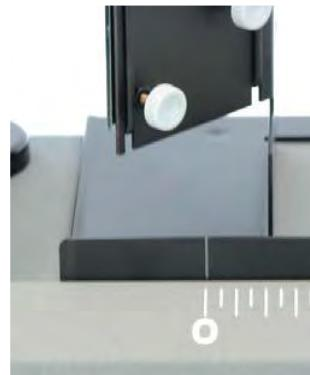

Fig. 13
- Place the mirror near the operating unit, that the slit of the mirror's base points to the zero point of the base plate's scale (Fig. 13).